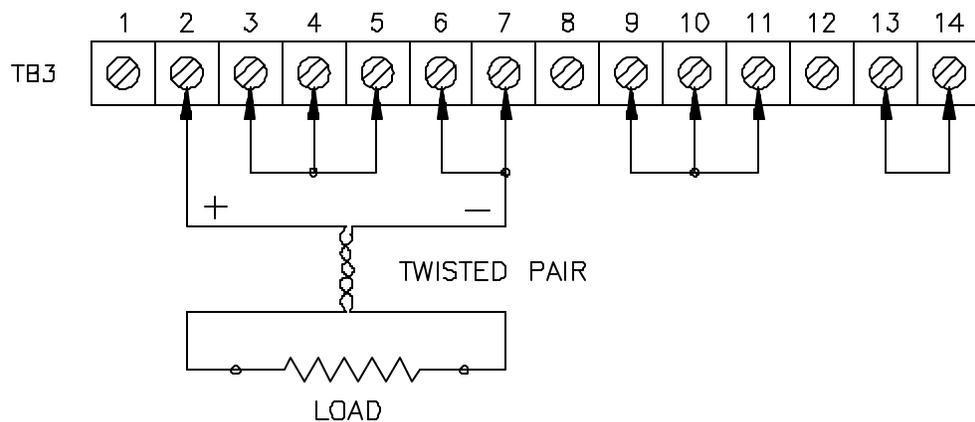

Figure 2 Remote Sense Configuration
3.3.2 REMOTE SENSING (FIGURE 2)